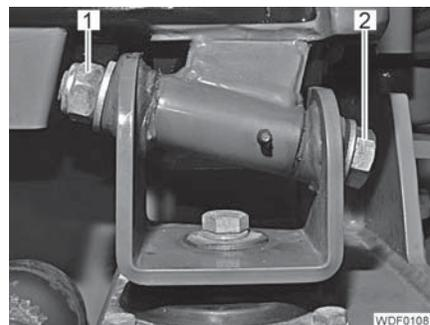

Fig. 343 Cab attachment (front)
- Unscrew the nut (Fig. 343,1).
- Drive out the hinge pins (Fig. 343,2) forwards.